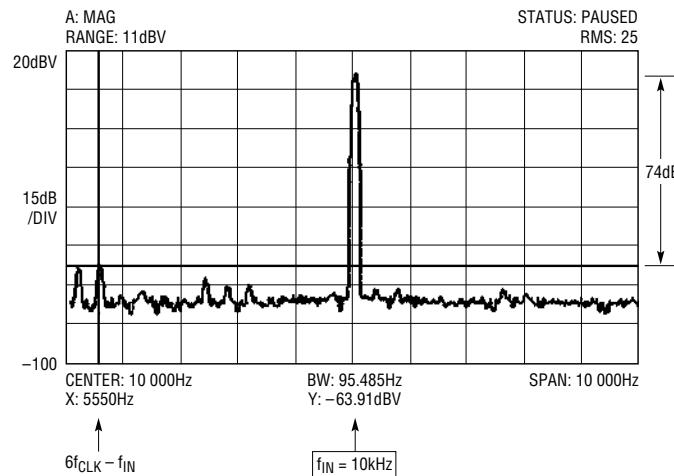

Figure 5b. Same as Figure 5a, but the AC Input Signal is 900mV, 10kHz
3. The number of alias signals increases when the input signal frequency increases (Figure 5b).
4. When the frequency, f_{IN} , of the input signal is less than f_{CLOCK} , the alias signal(s) amplitude(s) directly scale with the amplitude of the incoming signal. The output “signal to alias ratio” cannot be increased by just boosting the input signal amplitude. However, when the input AC signal frequency well exceeds the clock frequency, the amplitude of the alias signals does not directly scale with the input amplitude. The “signal to alias ratio” increases when the output swings closely to the rails. (See Figure 5b and Figure 7.) It is important to note that the LTC1051/LTC1053 op amps, under light loads ($R_L \geq 10\text{k}$), swing closely to the supply rails without generating harmonic distortion (Figure 8).